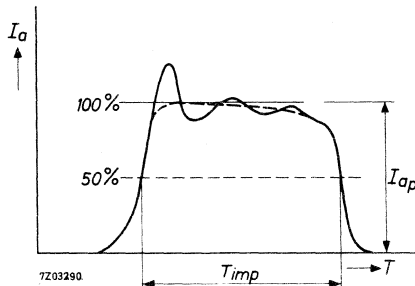

Fig. 1.
- $T_{\text{imp}}$  The pulse duration  $T_{\text{imp}}$  is defined as the time interval between the two points on the current pulse at which the current is 50% of the smooth peak current (see fig. 1).